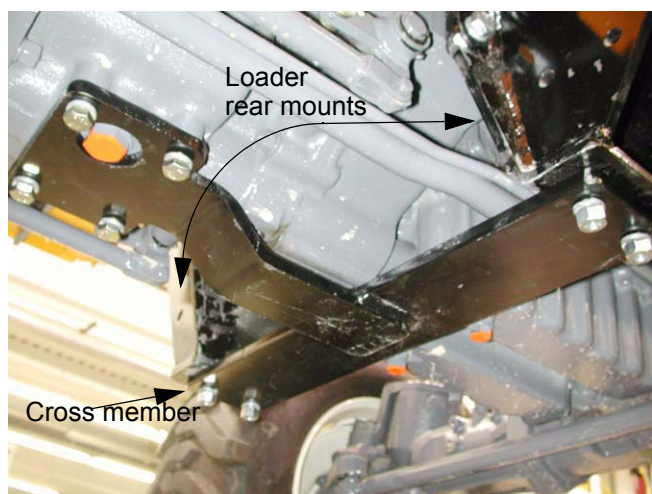

Figure 1.9
1.9. Remove the four bolts that hold the cross member to the bottom of the transmission housing using a 19 mm wrench. See Figure 1.9.